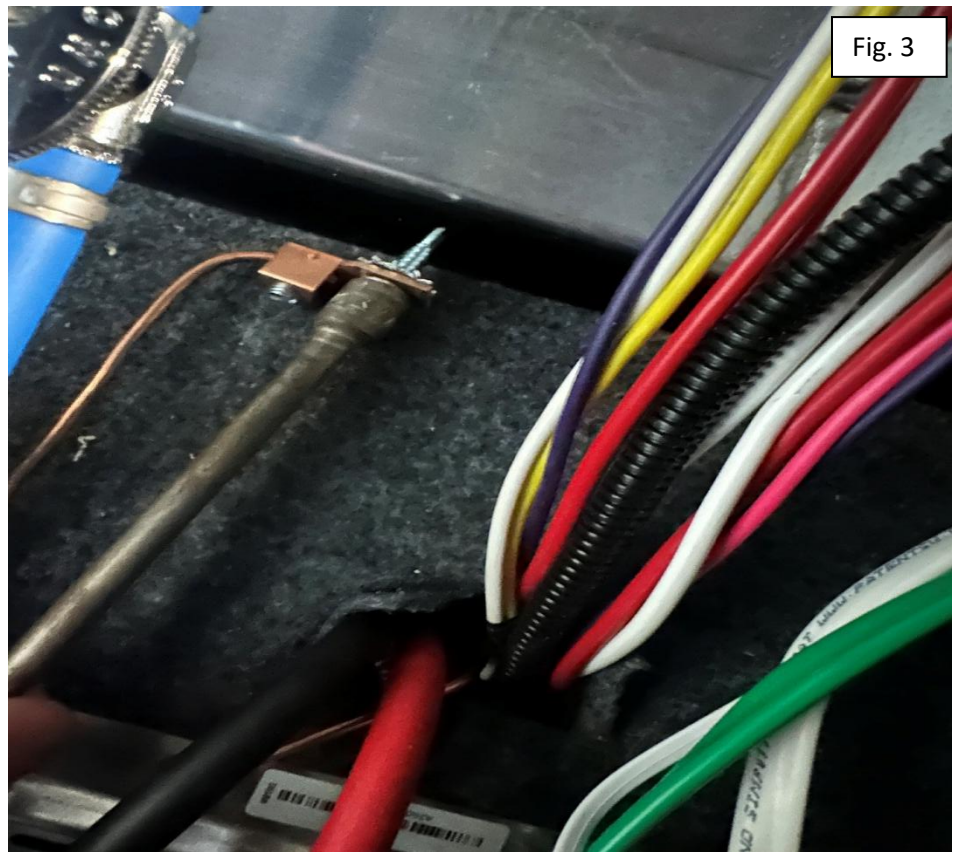

Fig. 3
4. Cut ground wire to desired length and insert into ground port on inverter. Tighten the allen bolt with 5/64 sae allen wrench. (Figures 3 – 4)